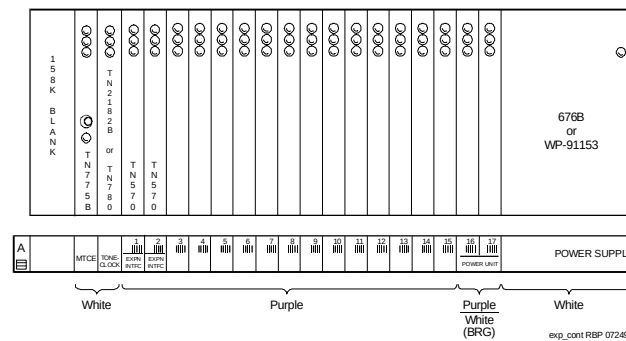

Figure 3-11. Circuit-Pack Locations in Standard-Reliability DEFINITY ECS R5si Expansion Control Cabinet
1. See WARNING and NOTE. Using Figure 3-11 and the label, install the power unit and DEFINITY ECS R5si control circuit packs into the new enhanced control cabinet.